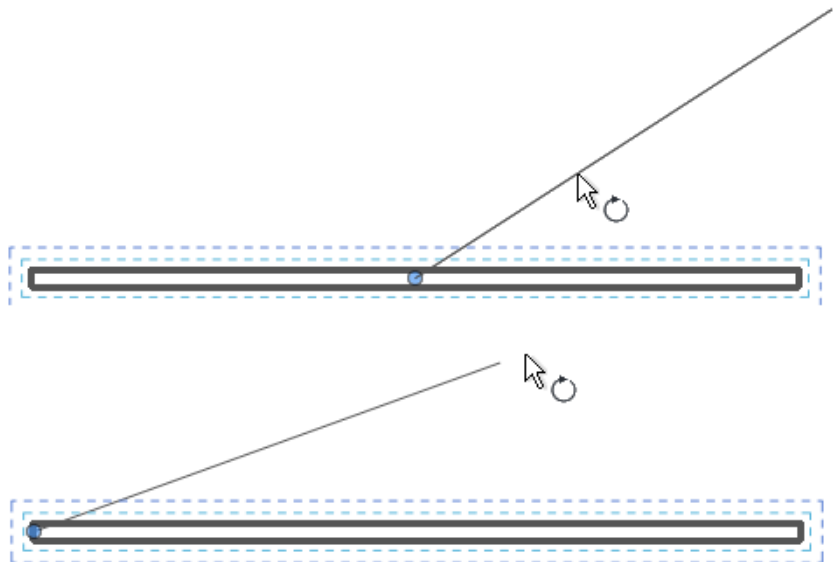

Figure 2–65
5. Both  (Rotate) and  (Array) with  (Radial) have a center of rotation that defaults to the center of the element or group of elements you have selected. How do you move the center of rotation to another point as shown in Figure 2–65? (Select all that apply.)